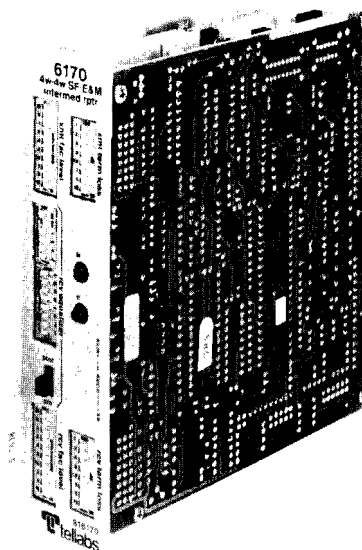

figure 1. 6170 4Wire-to-4Wire SF-to-E&M
1.01 The 6170 4Wire-to-4Wire SF-to-E&M Intermediate Repeater module (figure 1) provides both active transmission interface and bidirectional signaling conversion between a 4wire facility that uses 2600Hz single-frequency (SF) signaling and a 4wire trunk or line that uses E&M signaling. The 6170 module is designed in accordance with the specifications given in AT&T Technical Reference Pub 43001: Functional Criteria for Voice-Frequency Terminating Equipment/Metallic Facilities/Central Office.